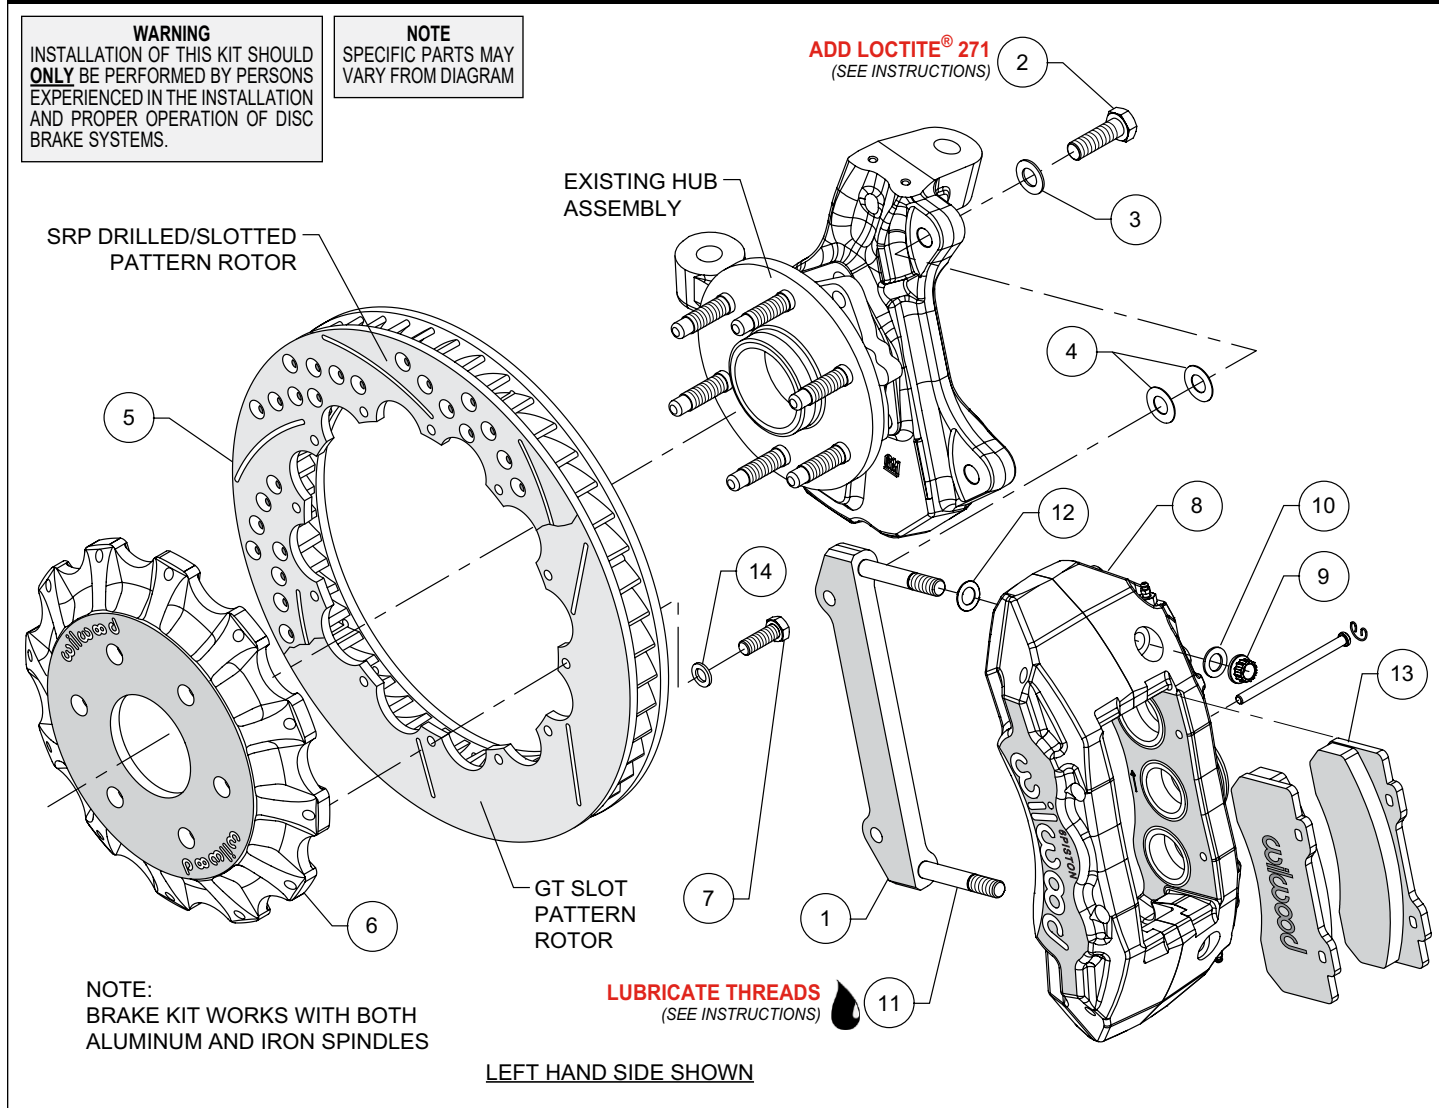
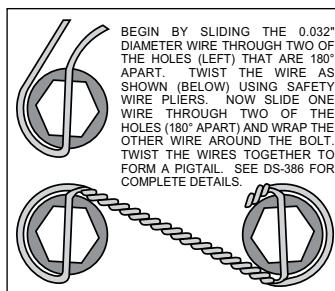

Figure 1. Typical Installation Configuration
Figure 3. Safety Wire Diagram
NOTE: Numbers in parenthesis refer to the parts list and Figure 1 on the preceding pages.
- The caliper mount bracket (1) should initially be installed with clean, dry threads on the mounting bolts. Orient the bracket as shown in Figure 1 and Photo 1, and install using bolts (2) and washers (3). Initially place two .029 thick shims (4) on each bolt between the bracket and upright, Figure 1. Temporarily tighten the mounting bolts. **NOTE:** The bracket must fit squarely against the mount bosses on the upright. Inspect for interference from casting irregularities, machining ridges, burrs, etc. Later, after the caliper alignment has been checked, the mount bolts will be secured using red *Loctite*® 271.
- Orient the rotor (5) and the hat (6) as shown in Figure 1 and Photo 2. Attach rotor to hat using bolts (7) and washers (14). Apply red *Loctite*® 271 to the bolt threads and torque to 25 ft-lbs using a criss-cross pattern. For an added measure of security, the bolts may be safety wired using standard 0.032 inch diameter stainless steel safety wire as shown in Figure 3. Please refer to Wilwood's data sheet DS-386 (available at www.wilwood.com/Pdf/DataSheets/ds386.pdf) for complete safety wire installation instructions.
- NOTE:** This kit contains distinct right and left hand calipers that must be mounted in a specific direction, as described below. Lubricate the caliper mounting studs (11) with lightweight oil. Initially place one .032" thick shim (12) on each stud as shown in Figure 1 and Photo 3. Mount the caliper (8) onto the bracket (1) using lock nuts (9) and washers (10), Figure 1. Ensure that the caliper is mounted so that the largest pistons are at the rotor exit end of the caliper, in relation to the direction of rotor rotation. Temporarily tighten the lock nuts and view the rotor through the top opening of the caliper. The rotor should be centered in the caliper, Photo 4. If not, adjust by adding or subtracting shims (4) between the bracket and the upright. Always use the same amount of shims on each of the two mounting bolts. Once the caliper alignment is correct, remove the bracket mounting bolts (2) one at a time, apply red *Loctite*® 271 to the threads, and torque to 77 ft-lb.